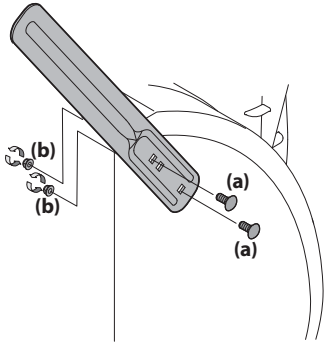

Figure 2-49
1. Remove two screws (a) and lock nuts (b) that secure each drift cutter, and remove them from the sides of auger housing. See Figure 2-49.
2. Turn the drift cutters around and position them as shown in Figure 2-49 to the outside of the auger housing.